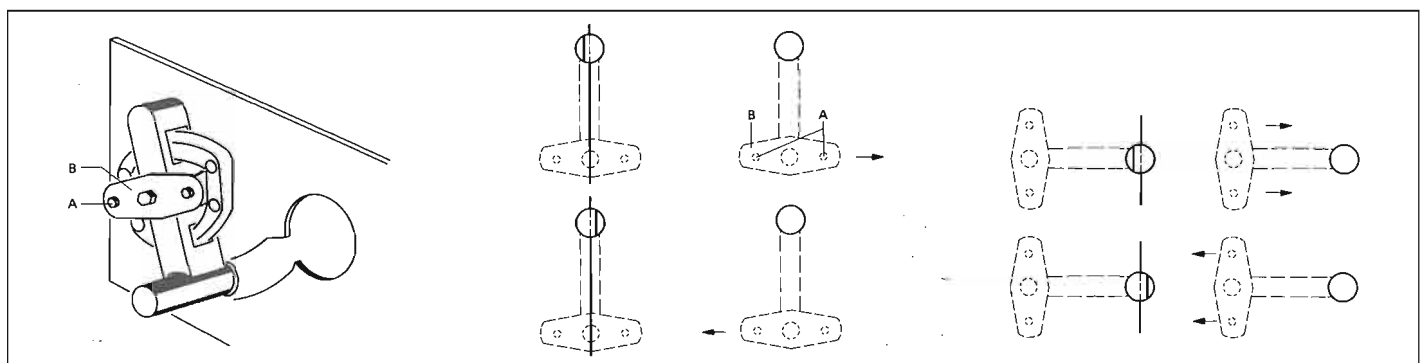

Fig. 4.13
→ Fig. 4.13
- Loosen the 2 screws [A] so that the bearing plate [B] can be shifted. (Fig. 4.13)
- Correct the position of the bearing plate according to Fig. 4.13.